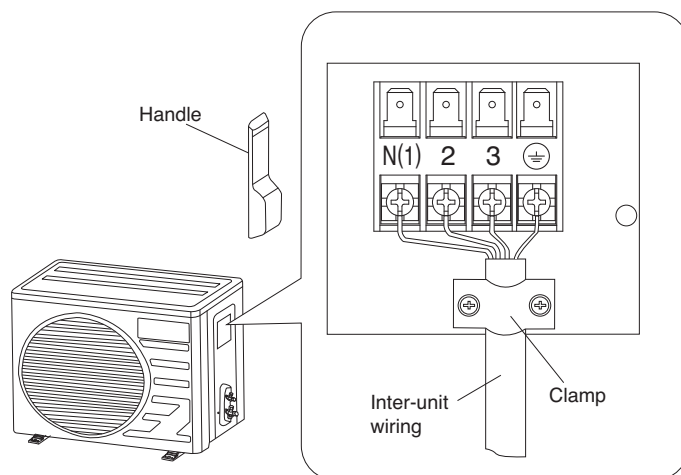

Fig. 24a
- (1) Disassemble the handle on the outdoor unit right side plate. (Screw x 1pc)
- (2) Take off the wire clamp, then connect and fix the power connect cord to the terminal of the line bank. Connect the inter-unit wiring and power line according to the drawing on the handle.
- (3) Be sure to secure the wiring with the clamp. (Fig. 24a)